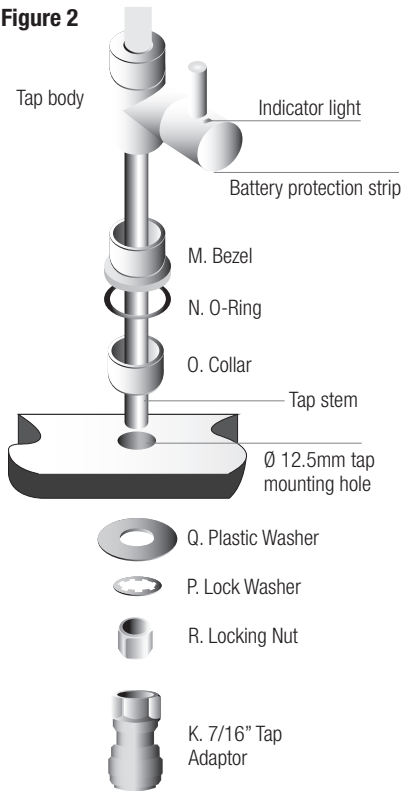

Figure 2
4. Install the Pillar Tap – see figure 2.